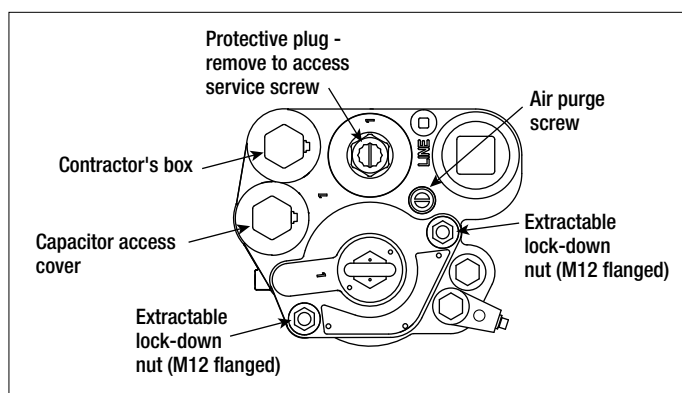

Figure 28. Extractable Lockdown Nuts
2. Remove the two extractable lock-down nuts and discard them (see Figure 28). The springs on the lock-down studs between the extractable's flange and the manifold will push the extractable up, breaking the seals.
13. Turn the air purge screw 2 - 3 turns counterclockwise (see Figure 28).
2. Remove and save the protective plug over the service screw and turn the screw clockwise (see Figure 28 on page 33). As the screw approaches its bottom position, you will hear the system depressurizing. Continue turning the screw until it can go no further. When the screw is all the way down, backoff the screw 4 turns to lift the check valve and let the fuel drain out of the manifold's hydraulic cavities. Continue to turn the screw counterclockwise until you hear the check valve drop down into position.
8. Open the air purge screw 2 - 3 turns counterclockwise (see Figure 28).